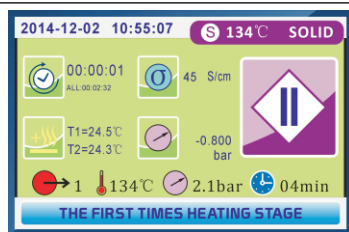

Fig.5.3-23
5.3.2.2. THE FIRST TIMES HEATING STAGE (Fig.5.3-23)